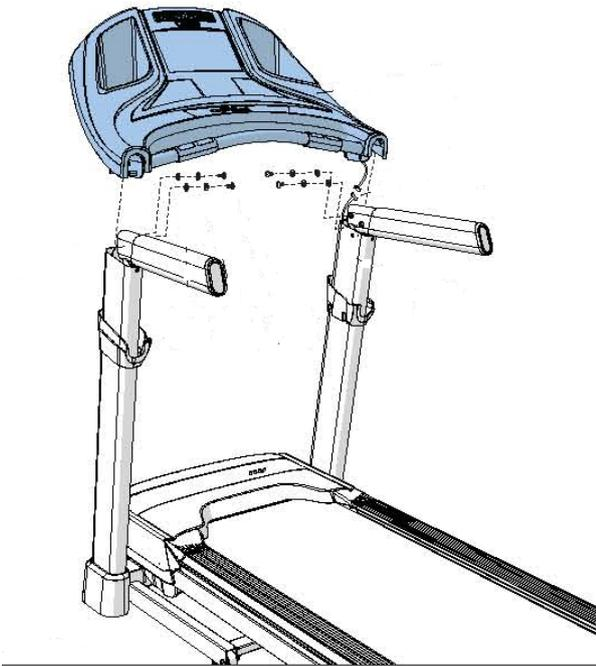

Fig1
1. Loosen the bolts on console masts, three sets on each .(Fig1)